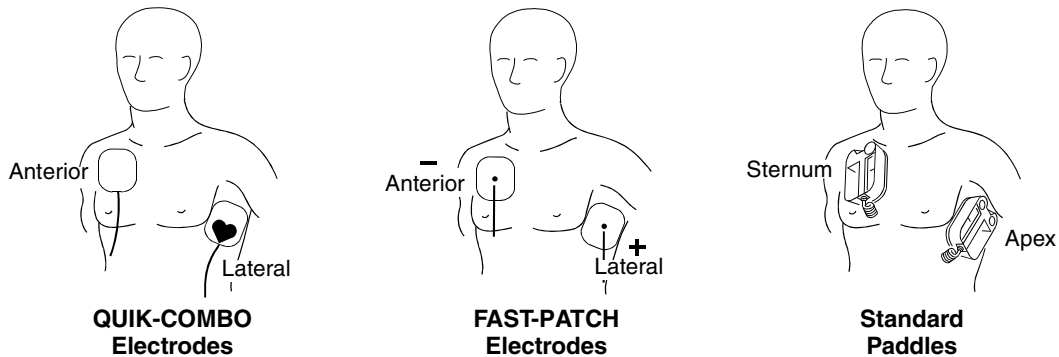

Figure 4-1 Anterior-lateral Placement
- 1 Place either the ♥ or + therapy electrode, or APEX paddle lateral to the patient's left nipple in the midaxillary line, with the center of the electrode in the midaxillary line, if possible. See Figure 4-1.
- 2 Place the other therapy electrode or STERNUM paddle on the patient's upper right torso, lateral to the sternum, and below the clavicle as shown in Figure 4-1.